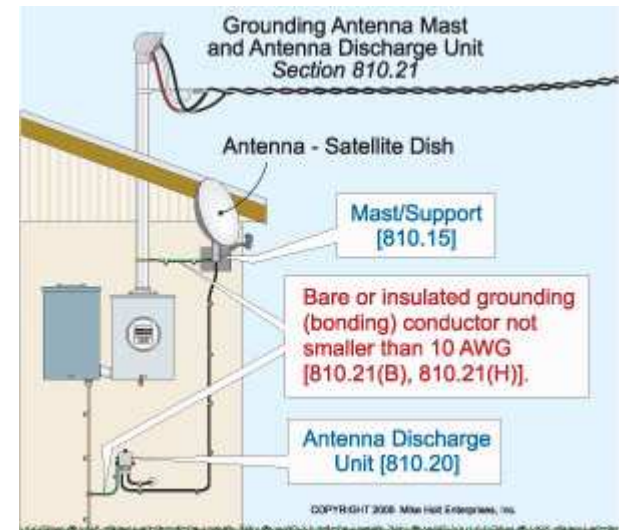

Fig. 3. Refer to 810.21(A) through 810.21 (K) for instructions on how to ground the antenna mast [810.15] and antenna discharge units [810.20(C)].
Ground the antenna mast [810.15] and antenna discharge units [810.20(C)] as specified in 810.21(A) through 810.21 (K) (**Fig. 3**), which we'll discuss next.